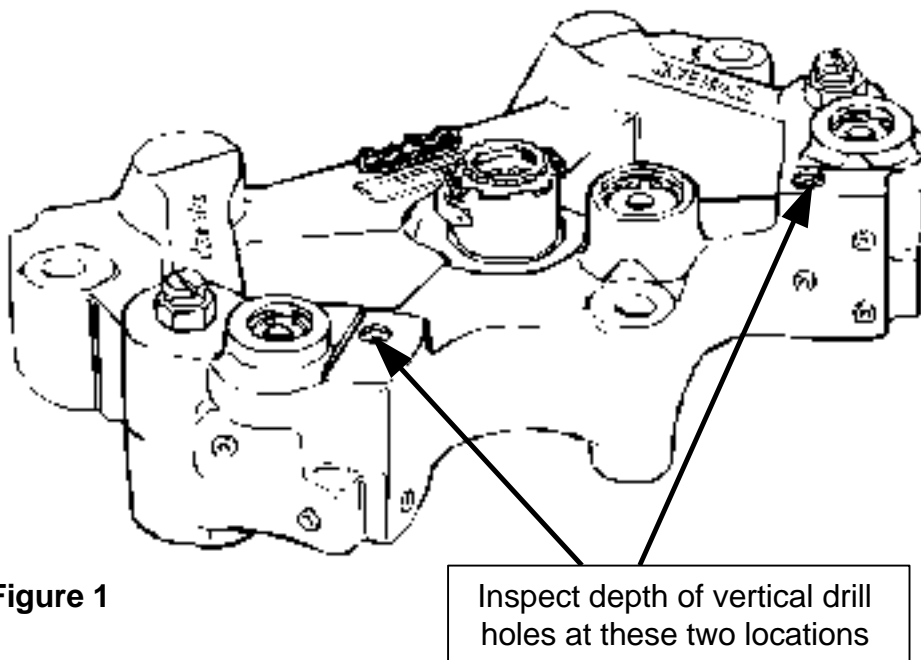

Figure 1
2. With the engine brake housings still installed on the engine, use a 5/32" hex key wrench to remove the two pipe plugs indicated by the arrows in Figure 1. Save the pipe plugs for reinstallation.